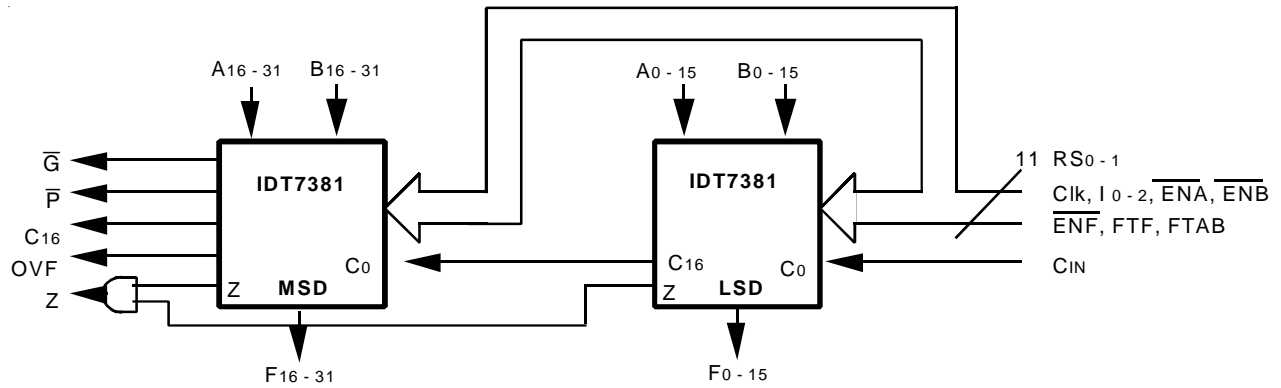
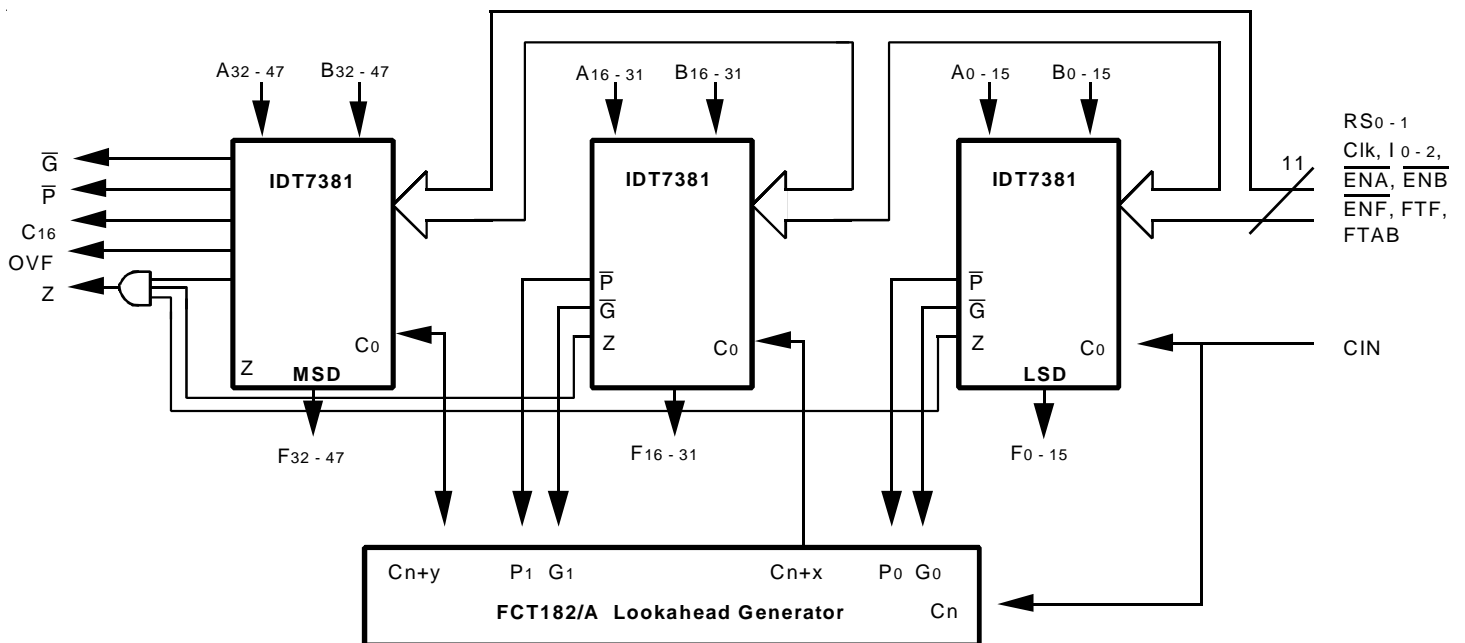

Figure 1. Cascading Two IDT7381s to 32 Bits
Figure 3. Cascading Three IDT7381s to 48 Bits Wide with a Carry-lookahead Generator
- a) Cascading the IDT7381 without a carry-look-ahead generator: (Figures 1 and 2)
4. The system's zero flag (Z) is obtained by ANDing all zero flag results.
- b) Cascading three or more IDT7381s with carry-look-ahead (CLA) generator: (Figure 3)
Output Load	Figure 1